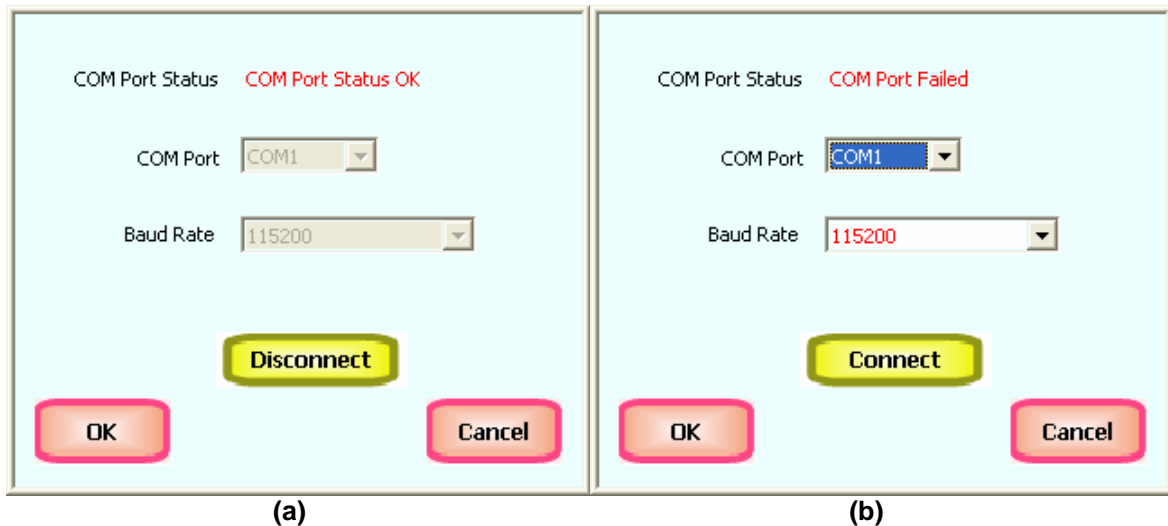

Figure 17 : COM Port Configuration
1. On the menu bar, click **Settings** menu and then click **COM Port configuration** sub menu. The following dialog appears. (Figure 17). Selected COM port and baud rate are shown in the dialog box.
- If CyberComm is already connected to the selected COM port, the 'COM Port Status' field shows '*COM Port is OK*' and the two drop-down boxes are read-only. [Figure 17 (a)]. To change COM port configuration, click **Disconnect** button.
- If the CyberComm is not connected to the selected COM port, the 'COM Port Status' field shows '*COM Port Failed*'. [Figure 17 (b)]